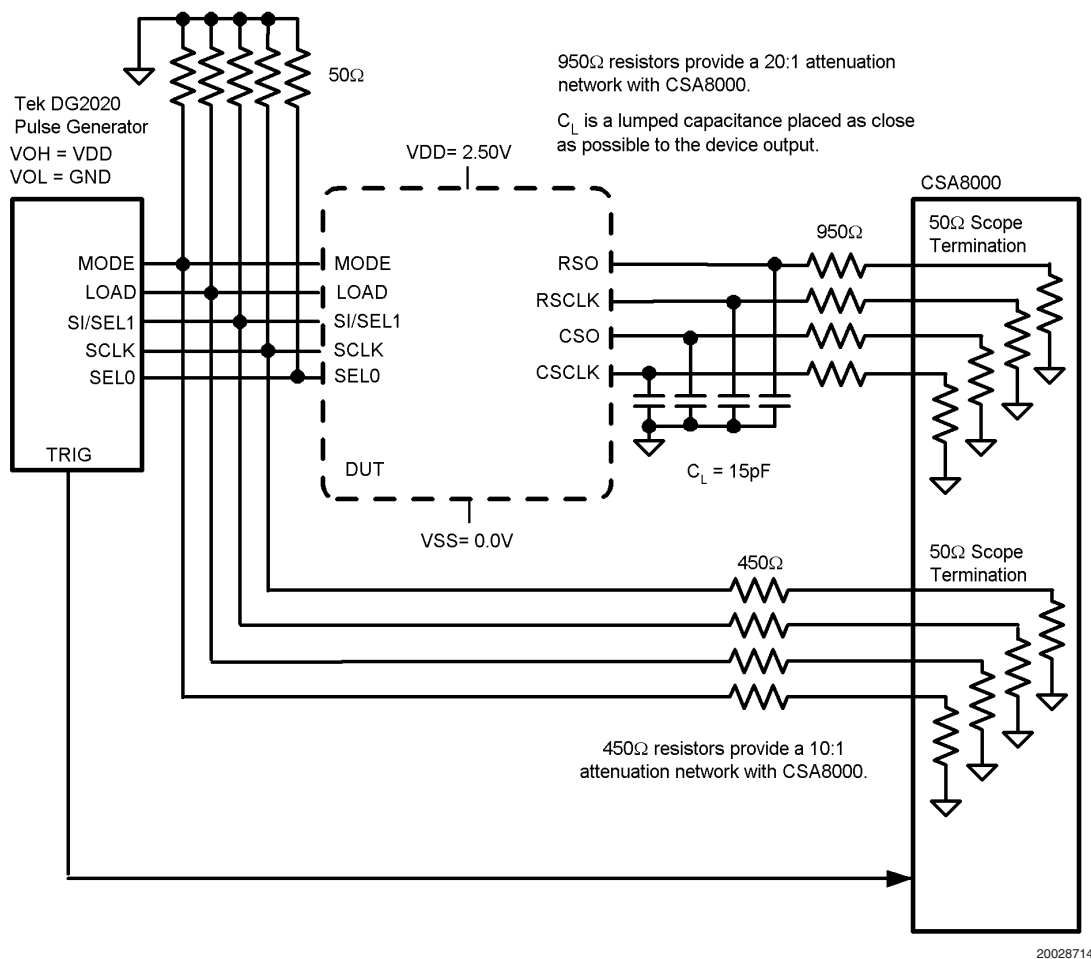

FIGURE 4. LVCMOS Driver AC Test Circuit (Note 6)
SWITCHING CHARACTERISTICS — Serial control interface (Figures 4, 8, 9)
**Note 6:** The LVCMOS input and output AC specifications may also be verified and tested using an input attenuation network instead of a power splitter as shown in Figure 4.